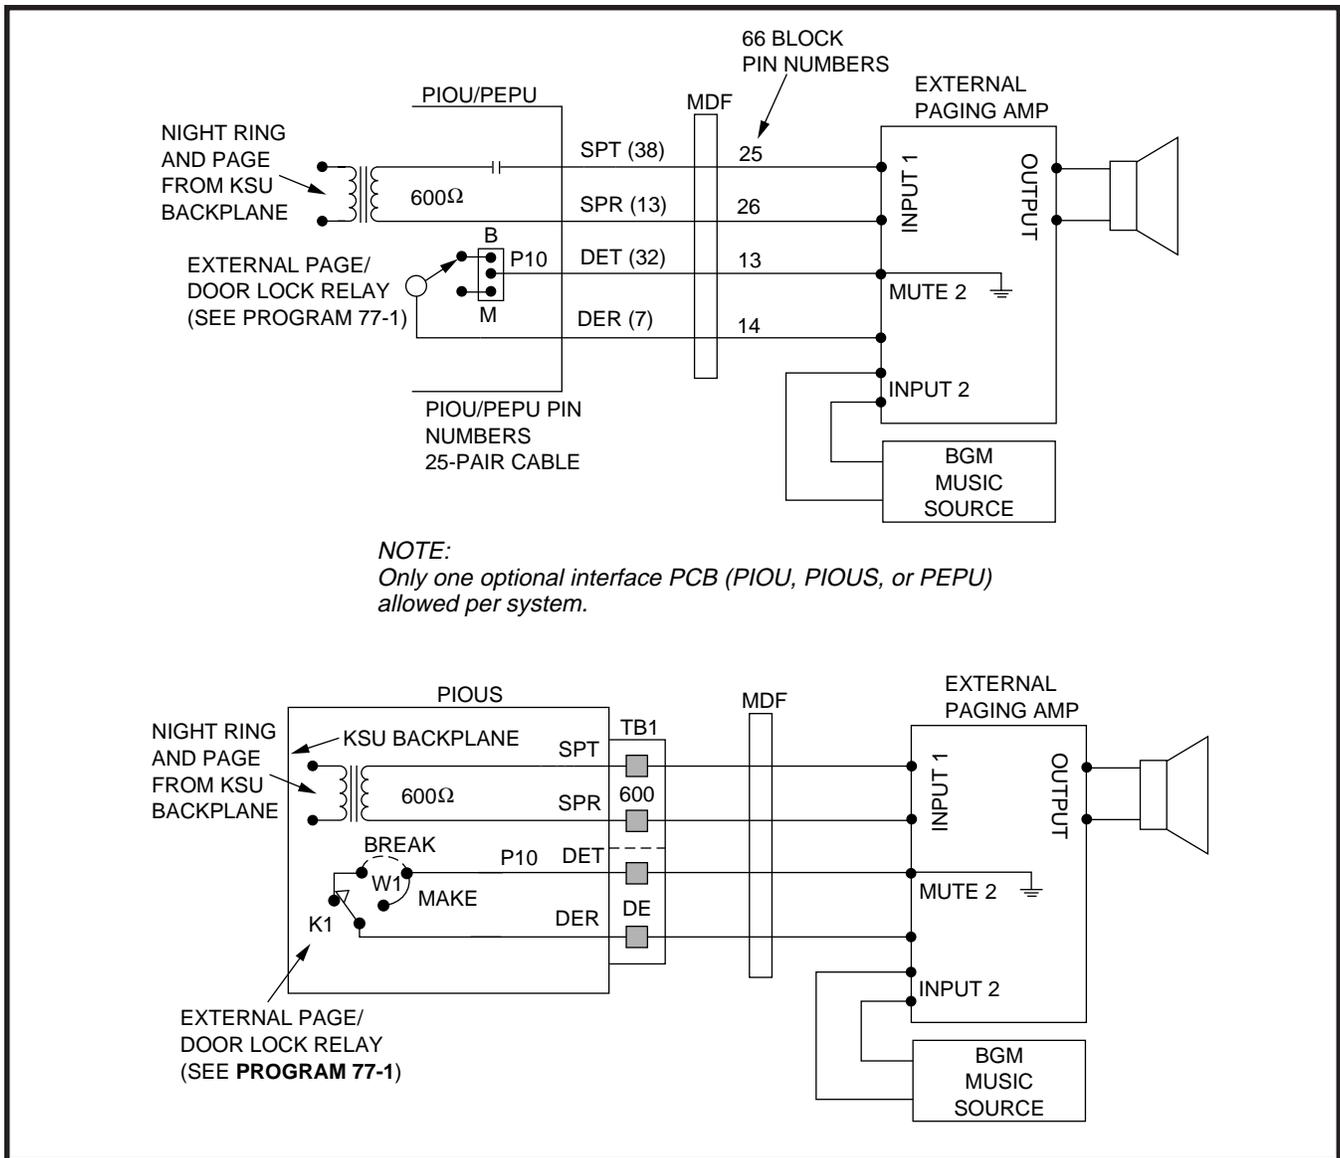

FIGURE 8-17
6.12 Page (single zone) with BGM (same amplifier). In this configuration, paging and BGM are amplified by a common customer-supplied paging amplifier. When the external page access code is dialed, the external page control relay is activated, which applies a short (or open) to the amplifier mute control to mute the music. Install this option in accordance with the following steps: (Refer to Figure 8-17.)